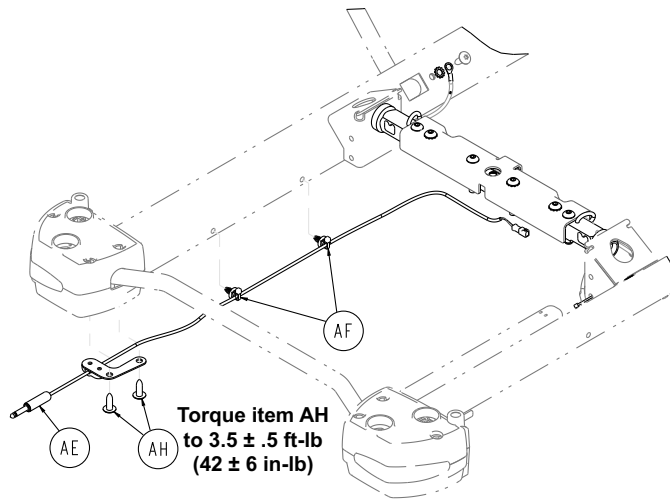

Figure 43 – 1/4" jack cable assembly
7. Using wire cutters, cut the two fir tree mounts (AF) that secure the 1/4" jack cable assembly on the patient left side of the siderail tube (Figure 43). Discard the fir tree mounts.
9. Using a T40 Torx driver, remove the two truss head machine screws (AH) that secure the 1/4" jack cable assembly (AE) to the bottom of the patient left head end bumper (Figure 43). Save the truss head machine screws.